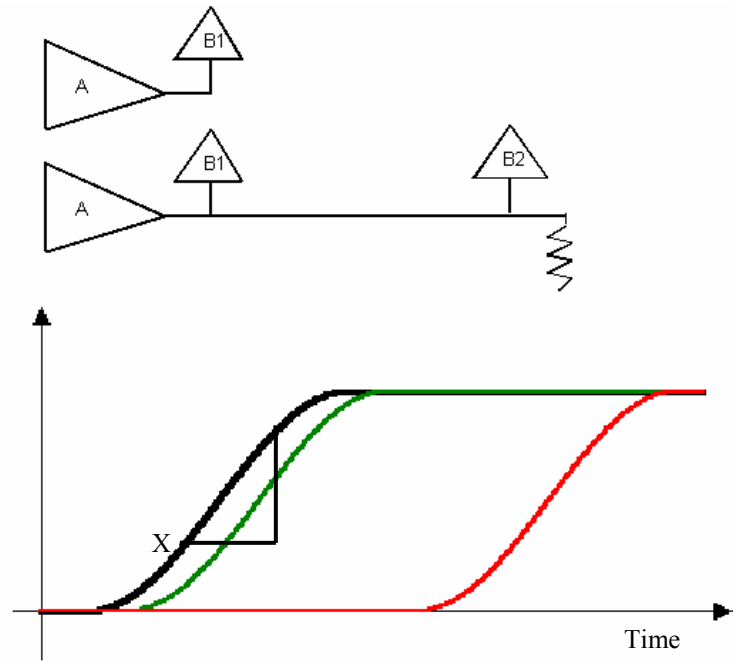
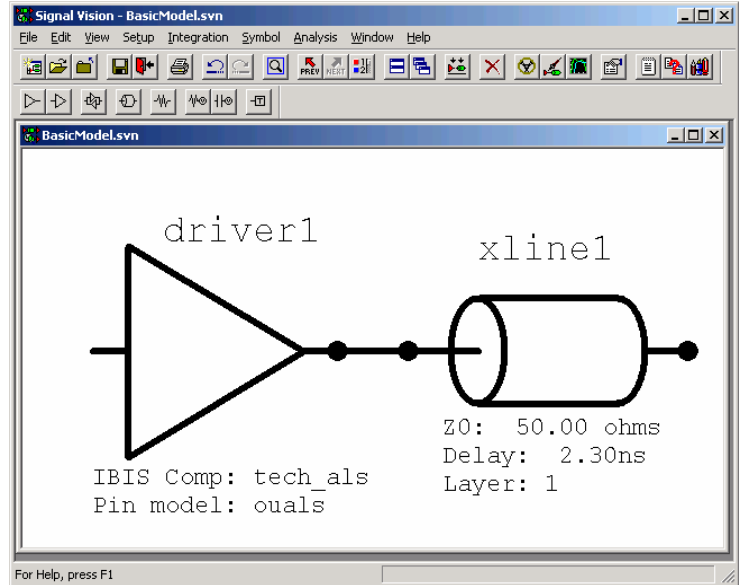
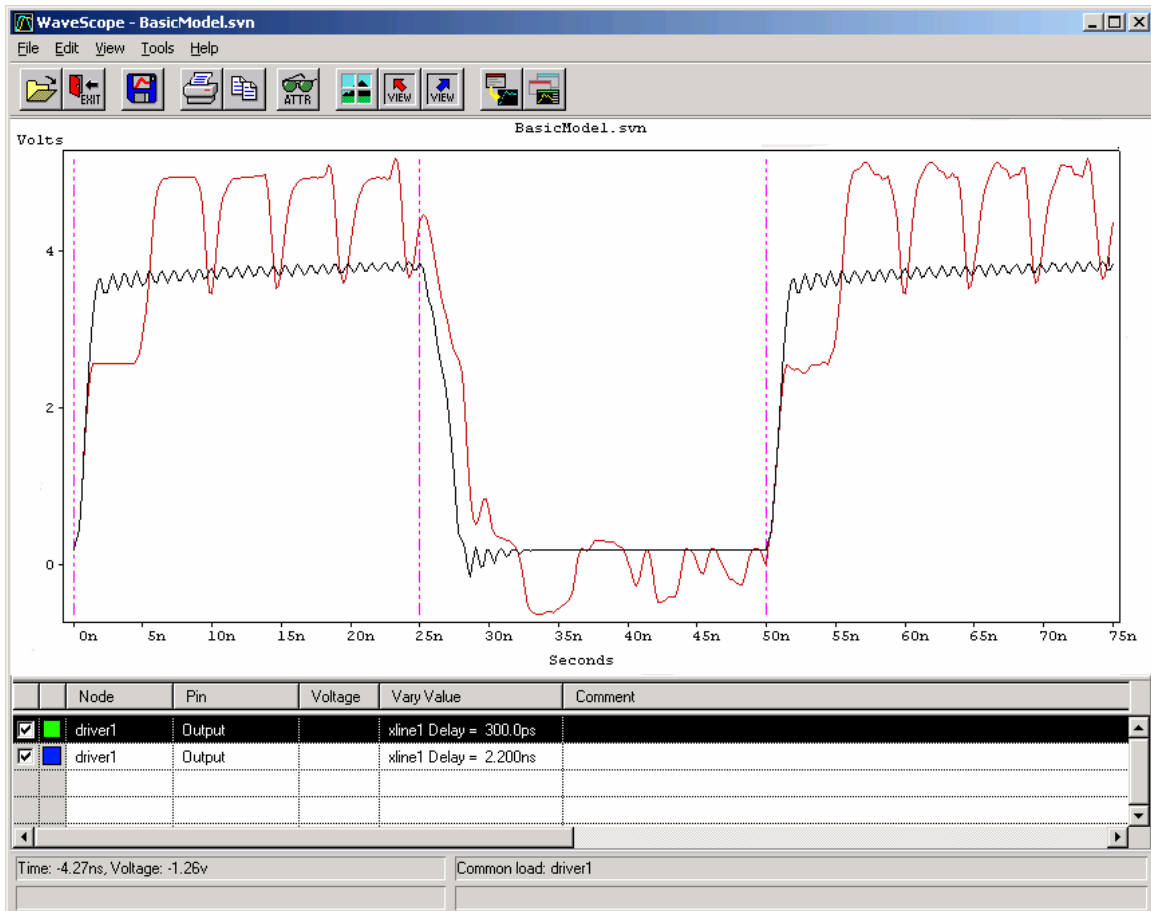

Figure 1
Figure 2 (right) Simple model for simulation.
Figure 3 The longer trace (red) has a reflection that is much worse than that for the shorter trace.
Figure 1 illustrates these points. A is a driver driving a signal down a trace. B1 and B2 are receivers. The black curve represents the signal being driven by A. The green and red curves represent the signals as they arrive at B1 and B2, respectively. The curves are approximately scaled. If the rise time of the driven signal is 1 nanosecond, and the propagation speed is 6”/ns, then the distance from A to B1 is
Figures 2 and 3 are a Signal Vision simulation of the conditions suggested in Figure 1.5 Figure 2 shows the basic model being simulated and Figure 3 illustrates the results. The basic model includes simply a driver with a 1 nanosecond rise time driving an unterminated 50 Ohm transmission line. Two response curves are shown in Figure 3. The black curve illustrates the signal at the driver when the trace length is
6. It is worth noting that if the trace in Figure 2 were correctly terminated, the two curves in Figure 3 would be perfectly smooth and indistinguishable from each other.